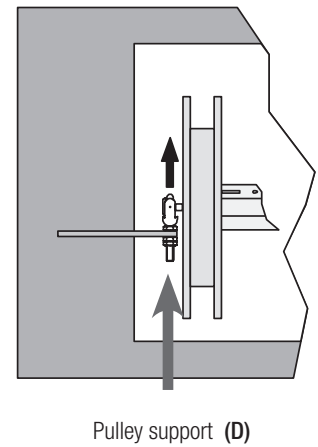

Fig. 4
3. Remove the pulley support from the cramp (fig. 4 ref. D).